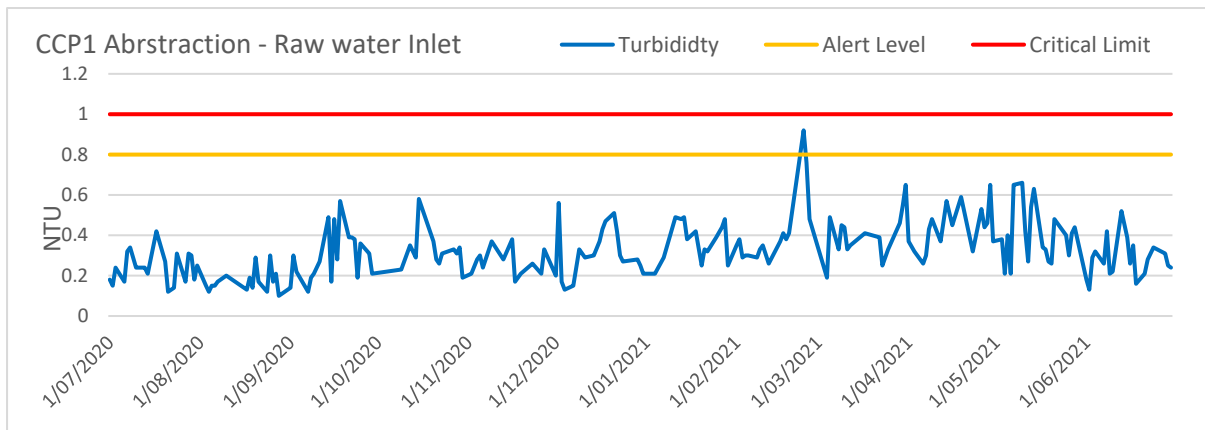

Figure 4.3.8a - CCP 1 Abstraction – Turbidity at Raw water inlet
Monitoring data for the Thungutti supply system CCPs is shown in Figures 4.3.8a and 4.3.8b.
No Critical Limit exceptions occurred in the Thungutti supply during the 2020-2021 reporting year (Table 4.1 and Figures 4.3.8a and 4.3.8b). A reduction of three (3) events from 2019-2020.
The single CCP1 Abstraction Alert Level exception occurring on the 24/02/21 was due to rain in the catchment that saw turbidity levels increase and recover within 24hours (Figure 4.3.8a). This water treatment plant (WTP) has automatic interlocks that shut the plant down if Turbidity levels reach the Critical Limit of 20 NTU.